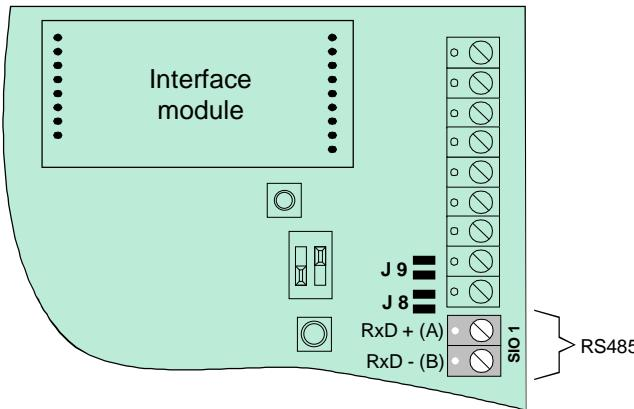

Fig. 9: Terminal SIO 1
- For activation of the symmetry resistors, close both solder bridges J8 + J9 (see Fig.9).